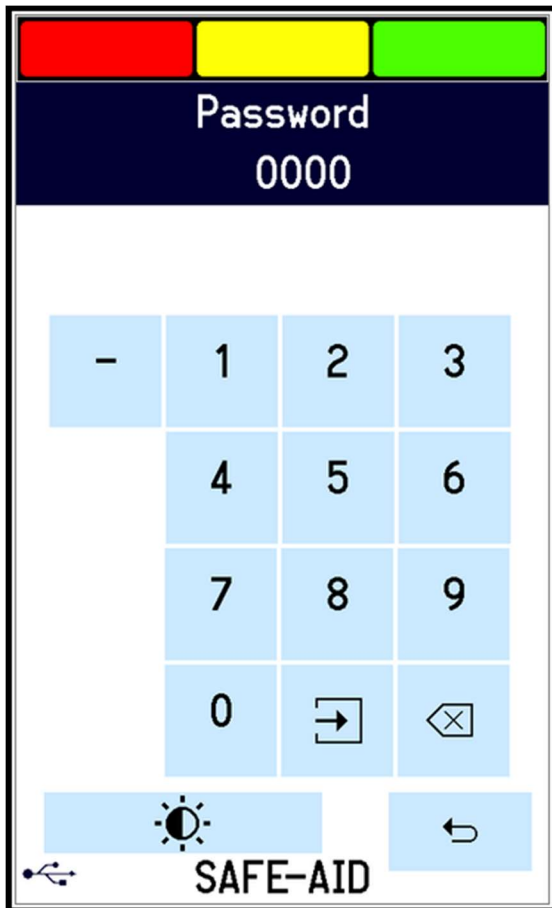

Figure 25
PROGRAM & REEVING LOCKOUT – FIGURES 25, 26, 27 & 28
1. Press the top left hand corner and the **Password** screen will be displayed (figure 25).
4. **Lockout Disabled** Select **No** - the screen will to return back to the Program Lockout screen and **Lockout Disabled** will be displayed in the selected button (figure 25). Repeat this for Program 1 & 2 if all programs are to have access. If only one program is locked the other will display **Not Used**
2. Enter the four digit password [- - -] followed by the **Enter** button, the Program Lockout screen will be displayed (figure 25).